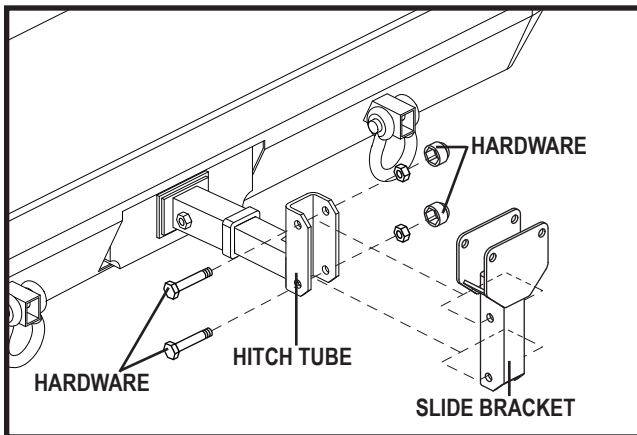

Figure 11. Slide Bracket Installation
4. Mount the slide bracket to the hitch tube using the hardware previously removed from the hitch tube, and reinstall hardware. **See figure 11.**